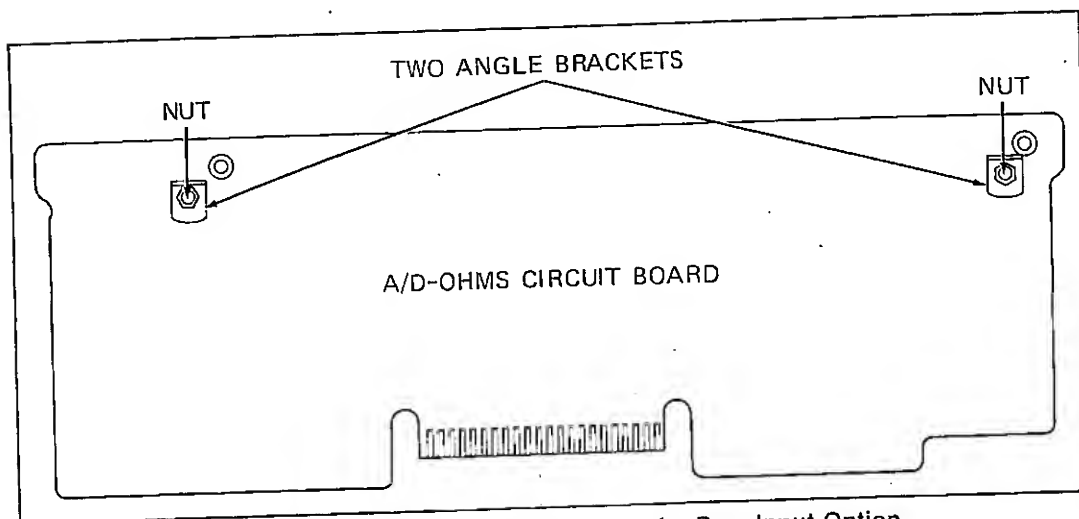

Figure 006-2. Installing Angle Brackets for Rear Input Option
4. Remove the External Reference circuit board (identified in Figure 006-1) from the A/D-Ohms circuit board by first unfastening the single screw holding it in place. This will allow the left-hand angle bracket of Figure 006-2 to be installed.
6. Fasten the two small angle brackets to the A/D-Ohms board (already removed), using the two screws and nuts as shown in Figure 006-2. (Note each angle bracket has one threaded hole. Mount the non-threaded hole against the A/D-Ohms circuit board.)